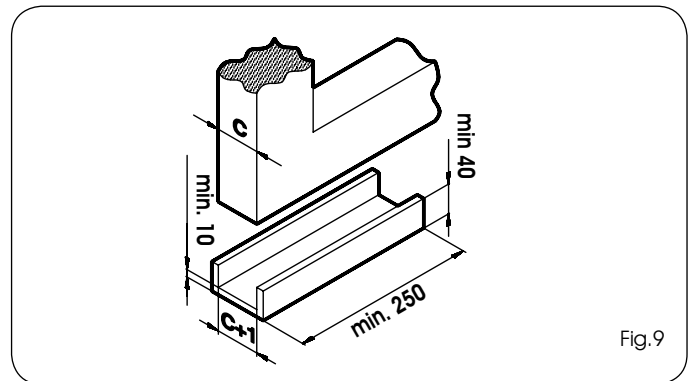

Fig.9
1) Make the gate guide bracket, with a "U" profile with dimensions as in figure 9.